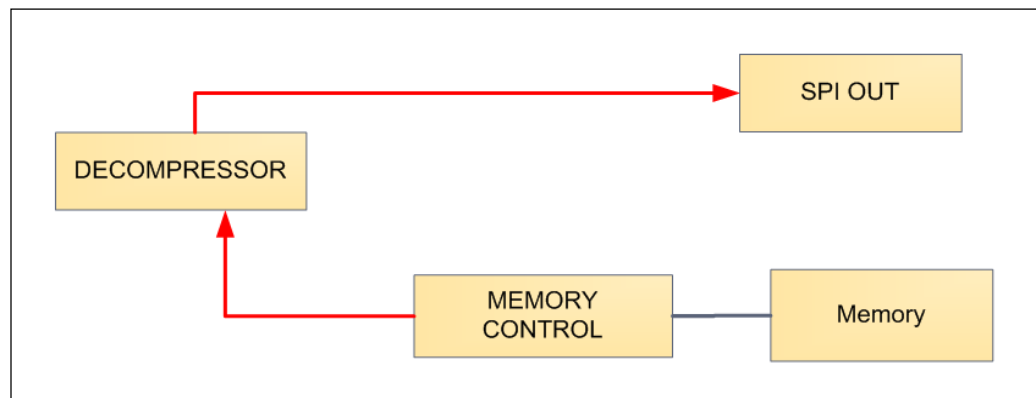

Figure 8-4 SPI Read De-Compressed Data (Playback)
When the end of the message is reached, a CMD_FIN interrupt will be generated and zero will be sent as data. If the valid play command in step (2) above is EXE_VM, a CMD_FIN interrupt will be generated at the end of the Voice Macro. See **Figure 8-4**.